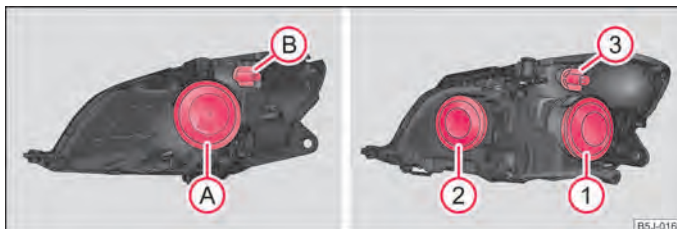

Fig. 152 Fitting position of the bulbs: Halogen headlights/halogen projector headlights
Positions of the light bulbs in the halogen headlights → fig. 152 on the left and in the halogen projector headlights → fig. 152 on the right.
- Remove the protective cap (A) ⇒ fig. 152.
- Remove the protective cap (1) ⇒ fig. 152 on the right.
- Remove the protective cap (2) ⇒ fig. 152 -right.
- Turn the socket (B) ⇒ fig. 152 or the socket (3) to the left and take it out together with the light bulb for the turn signal light.
- Remove the protective cap (A) or (Z) ⇒ fig. 152.